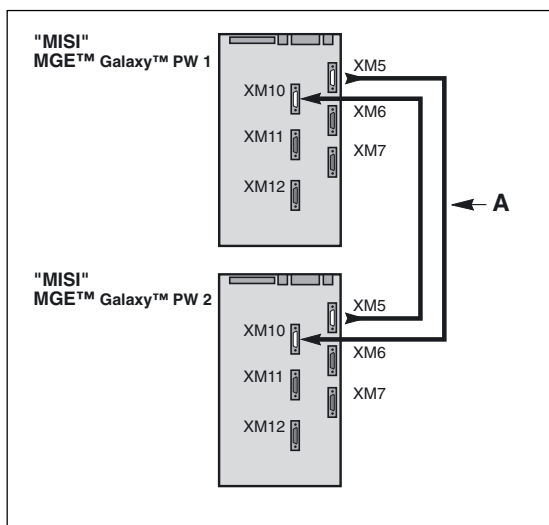

Fig. 28
See figures 28, 29 and 30.
- ▶ these connections are made using the special cables (A) supplied;
- ▶ situation with two parallel UPS units: see figure 28;